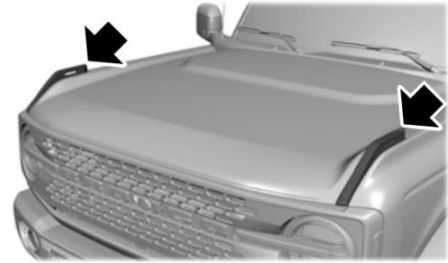

Figure 3
- 5) Remove the factory M6 fasteners on the fender anchor points (Fig.3) using the T30 Torx bit.